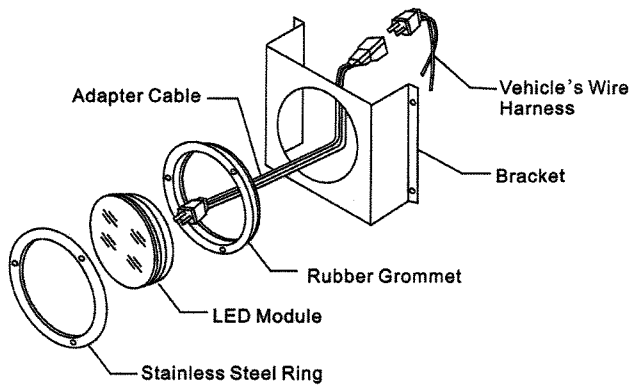

Figure3.
- ii. The 4" & 6" light using stainless steel ring, see figure 3.